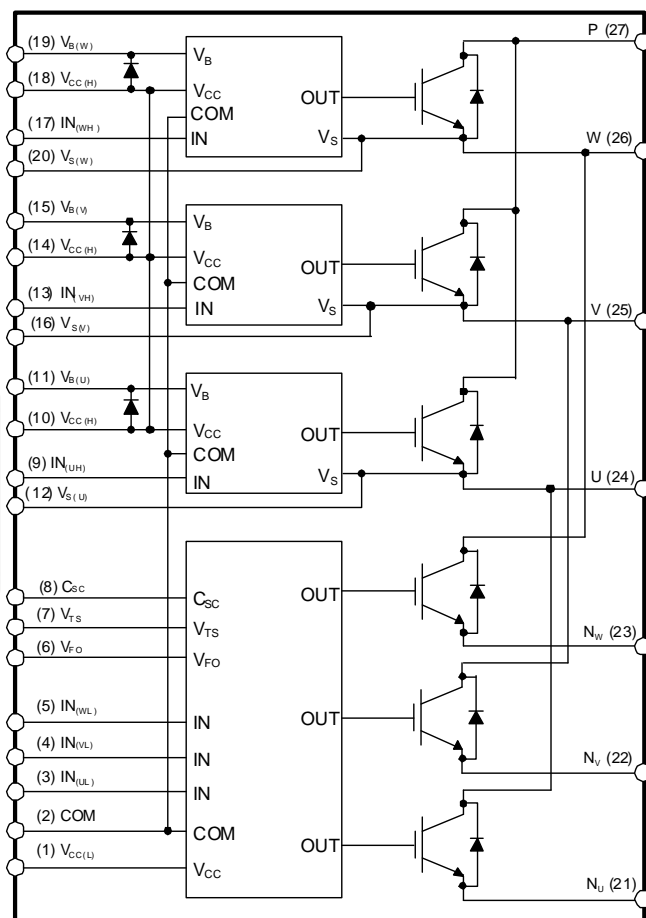

Figure 3. Internal Block Diagram
- 600 V - 15 A IGBT inverter for three-phase DC / AC power conversion (Please refer to Figure 3)